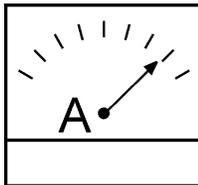

Figure 55. 9Ammeter (Load)
- Observe the generator's ammeter (Figure 55) and verify it reads the anticipated amount of current with respect to the load. The ammeter will only display a current reading if a load is in use.